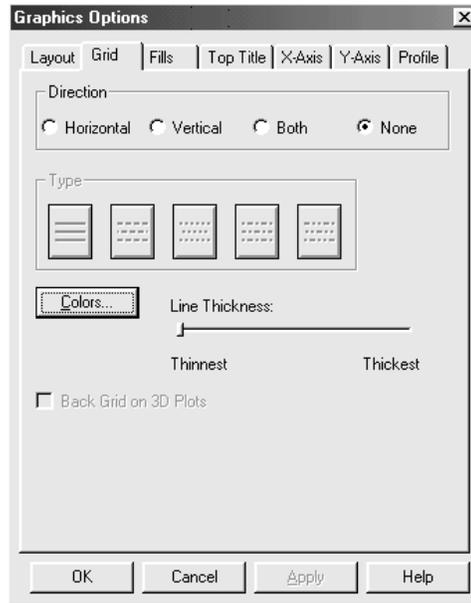

Figure 5-4. Grid Tab Page
3. Click the left mouse button on the graph, right click to display the pop-up menu, then left click on Graphics Options to display the Graphics Options dialog box. Click the Grid tab page (see Figure 5-4).